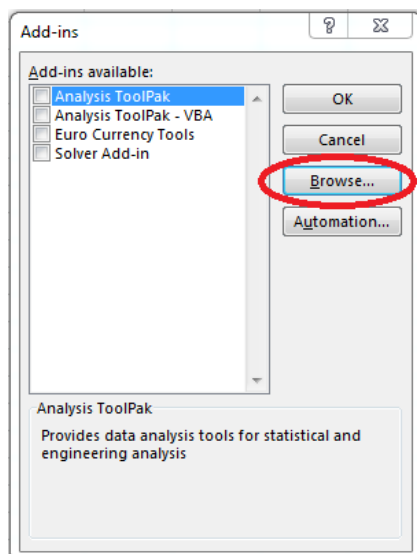

Figure 2.4: Dialog window "Add-ins"
- Click "Browse" in the following window (Fig. 2.4)